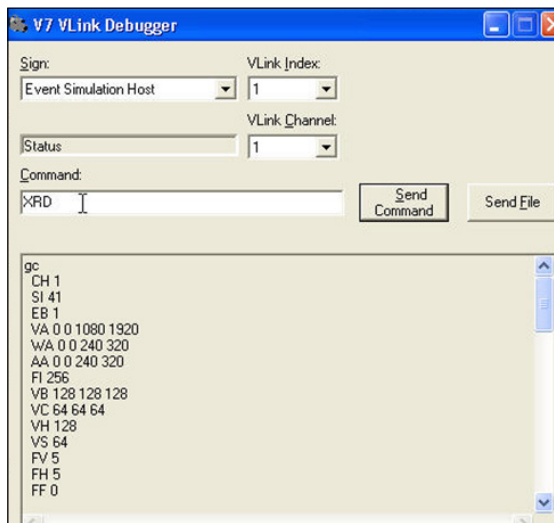

Figure 37: Entering XRD Command
3. Type **XRD** in the **Command** text box and click **Send Command** to delete all configuration settings and restart the VIP-4400. Refer to **Figure 37**.